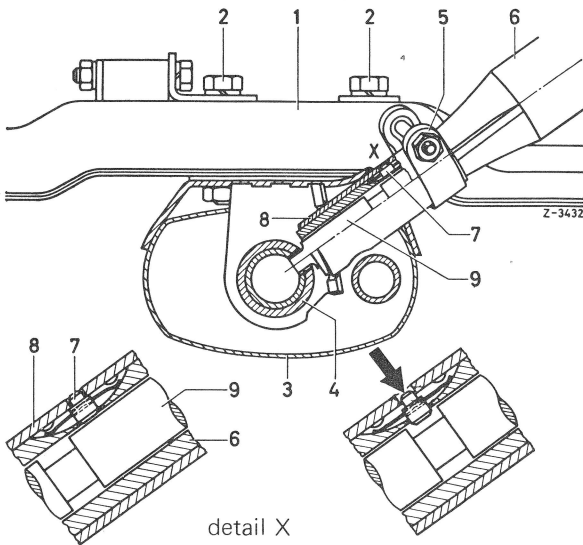

Fig. 3
8 Push locking pin (7) for steering lock (6) inwards with a punch approx. 5 mm thick (refer to arrow in Fig. 3). Turn steering lock and remove out of holder (8) of jacket tube and instrument panel, making sure that rosette is not damaged (Fig. 3).
9 Insert steering lock in position „1“ into holder of jacket tube while pushing locking pin inwards. Make sure that locking pin enters bore of holder (8) (Fig. 3).